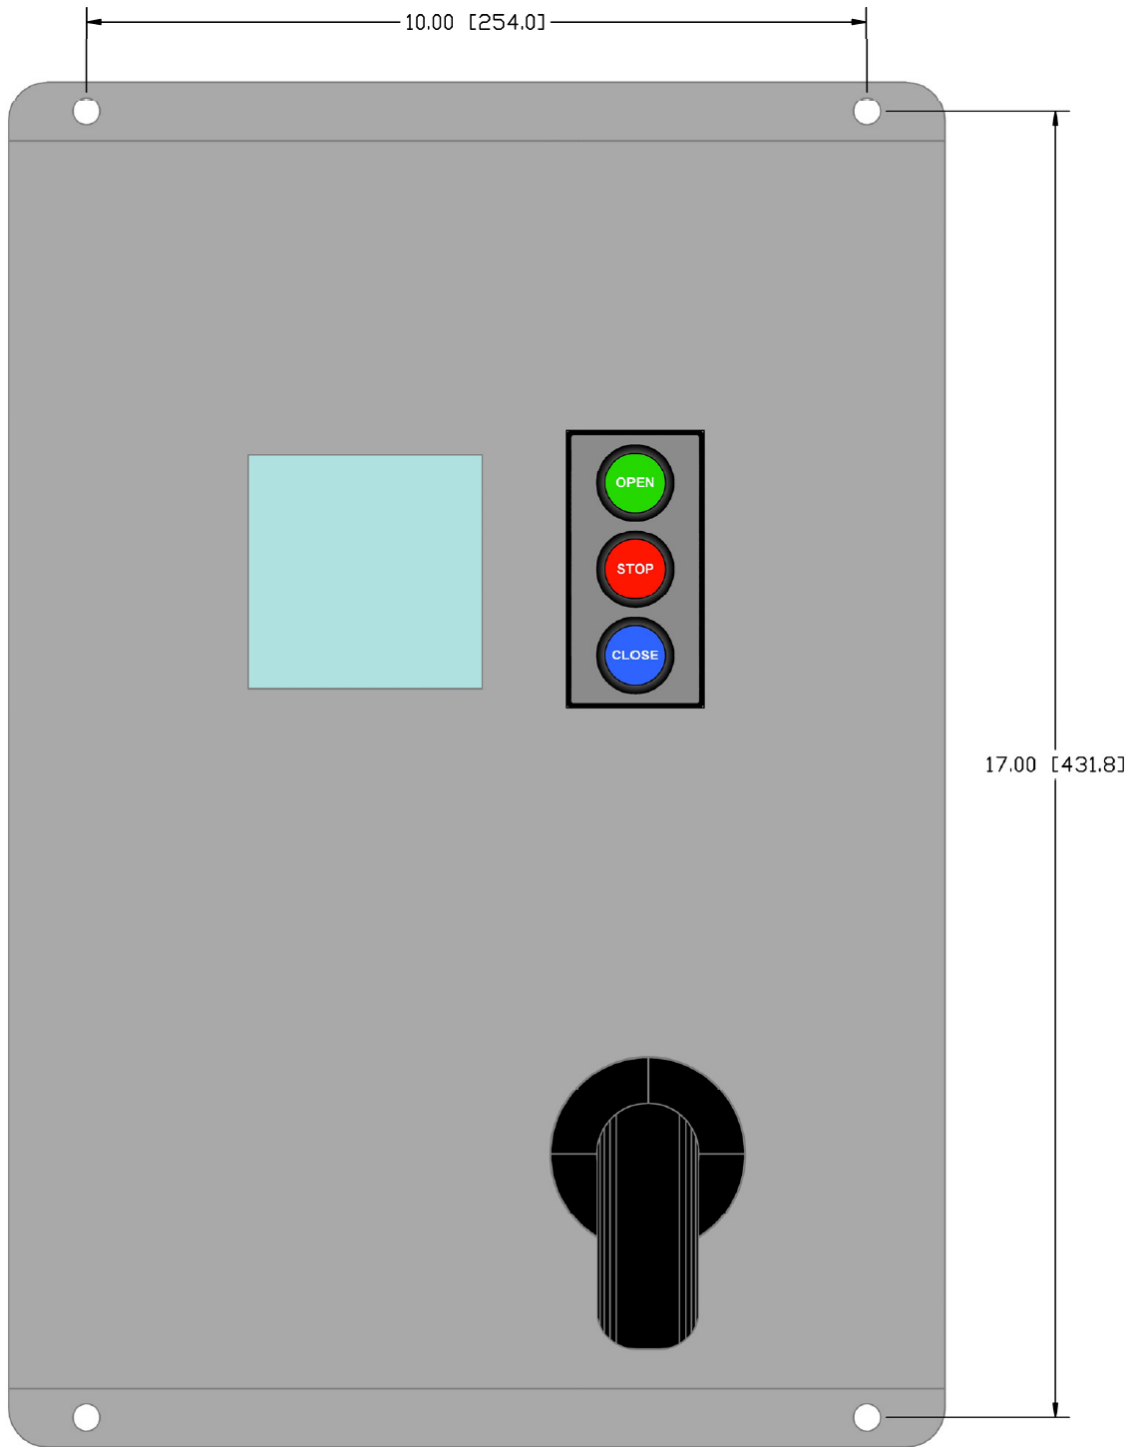

Figure 4: Enclosure Mounting Hole Dimensions
3. Drill mounting holes for the enclosure according to dimensions shown in Figure 4.